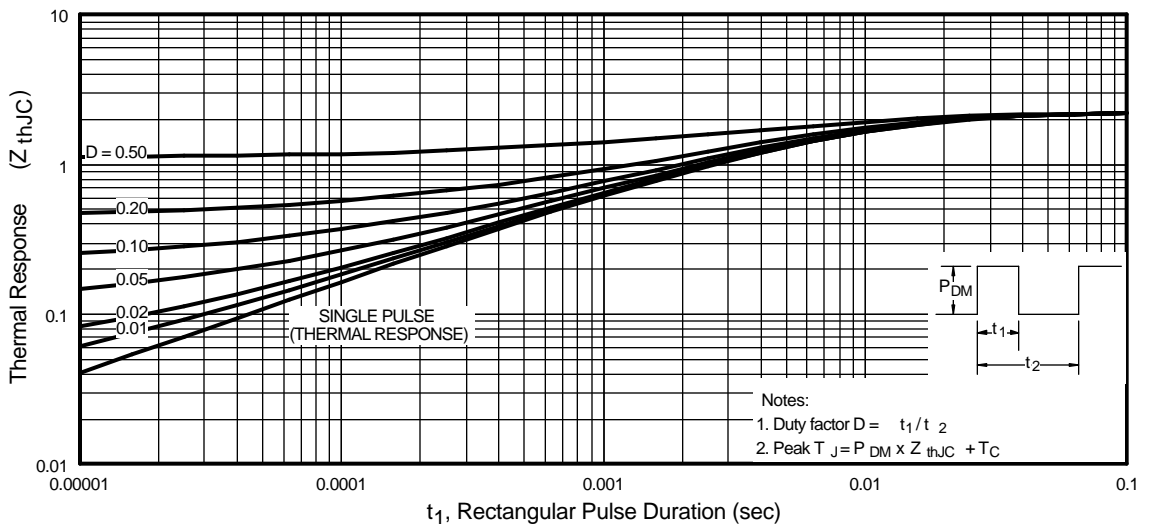

Fig 11. Maximum Effective Transient Thermal Impedance, Junction-to-Case
- ① Repetitive rating; pulse width limited by max. junction temperature. (See fig. 11)
- ② Starting T_J = 25°C, L = 590μH